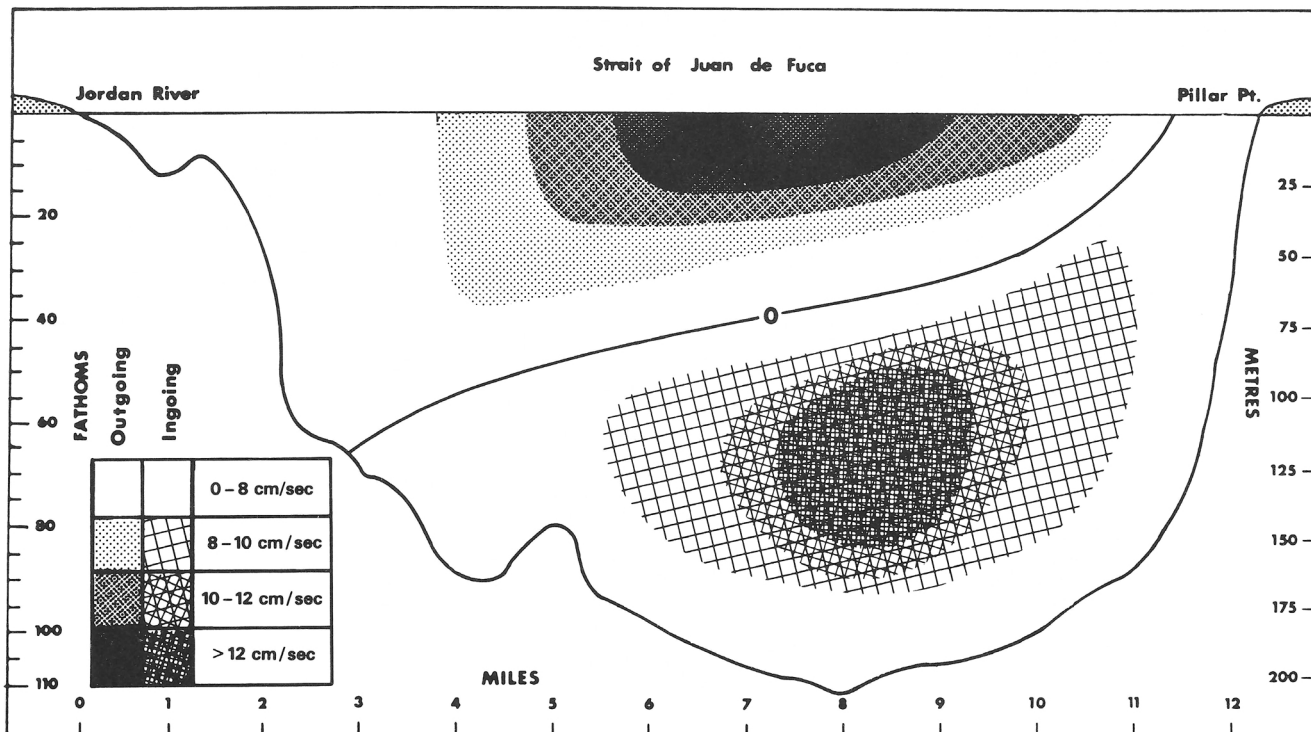

Figure 2. Residual Currents in Juan de Fuca Strait
portion of Juan de Fuca Strait west of Race Rocks, it appeared possible to determine the transport of water through the Strait and to measure surface speeds and their relation to sea levels from several short but thorough surveys. In 1973 we deployed 23 current meters on six moorings spanning the Strait. The idea was to moor as many current meters as possible in Juan de Fuca Strait and Johnstone Strait simultaneously so that we could estimate the transport of seawater around the island (1). In Juan de Fuca Strait we deployed CMDR current meters, an old type which punches a paper tape to record speed and direction. Although their performance was poor, there was sufficient return to generate the chart of residual circulation (Figure 2.).